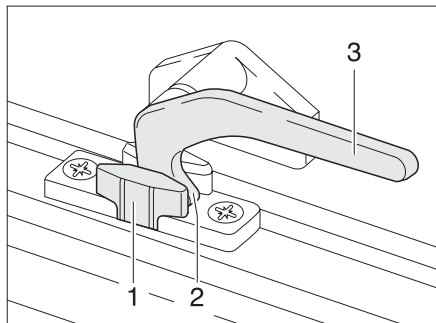

Fig. 47 Catch lever in the "continuous ventilation" position
- "Continuous ventilation" (Fig. 47)
- ▶ Turn the catch lever (Fig. 47,3) a quarter turn towards the centre of the window.
- ▶ Turn the catch lever a quarter turn towards the window frame. The locking catch (Fig. 47,2) has to be moved into the recess of window catch (Fig. 47,1).